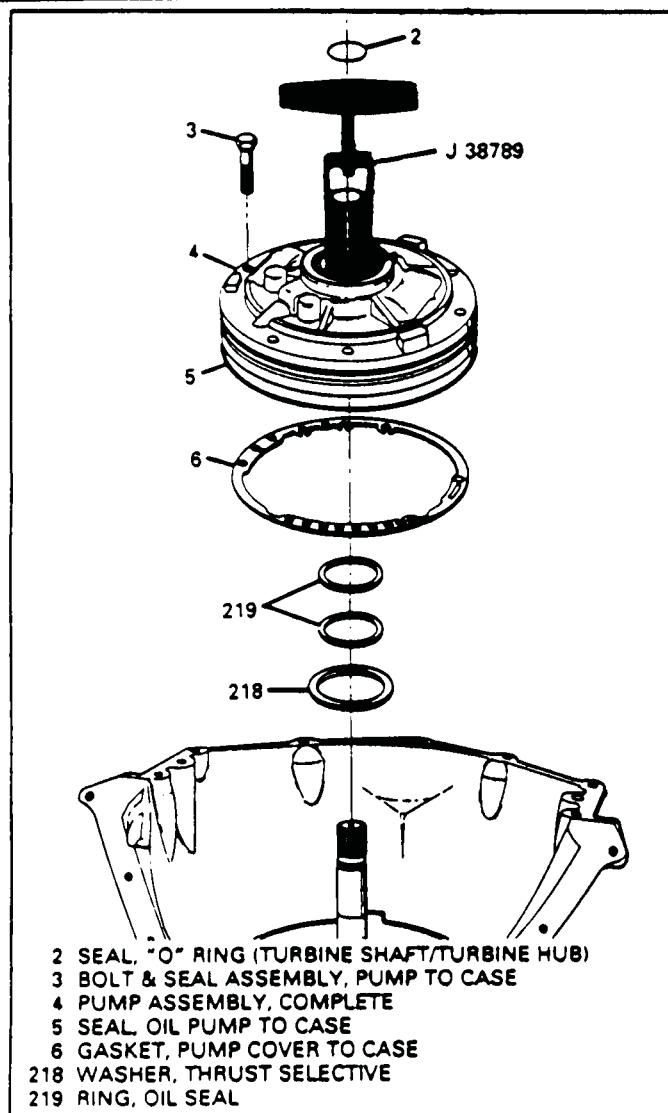

Figure 106
16. Install the oil pump assembly into the case, using J-38789, as shown in Figure 106.
17. Install the 6 oil pump to case bolts as shown in Figure 106.
8. Install new "O" ring onto the turbine shaft, as shown in Figure 106.